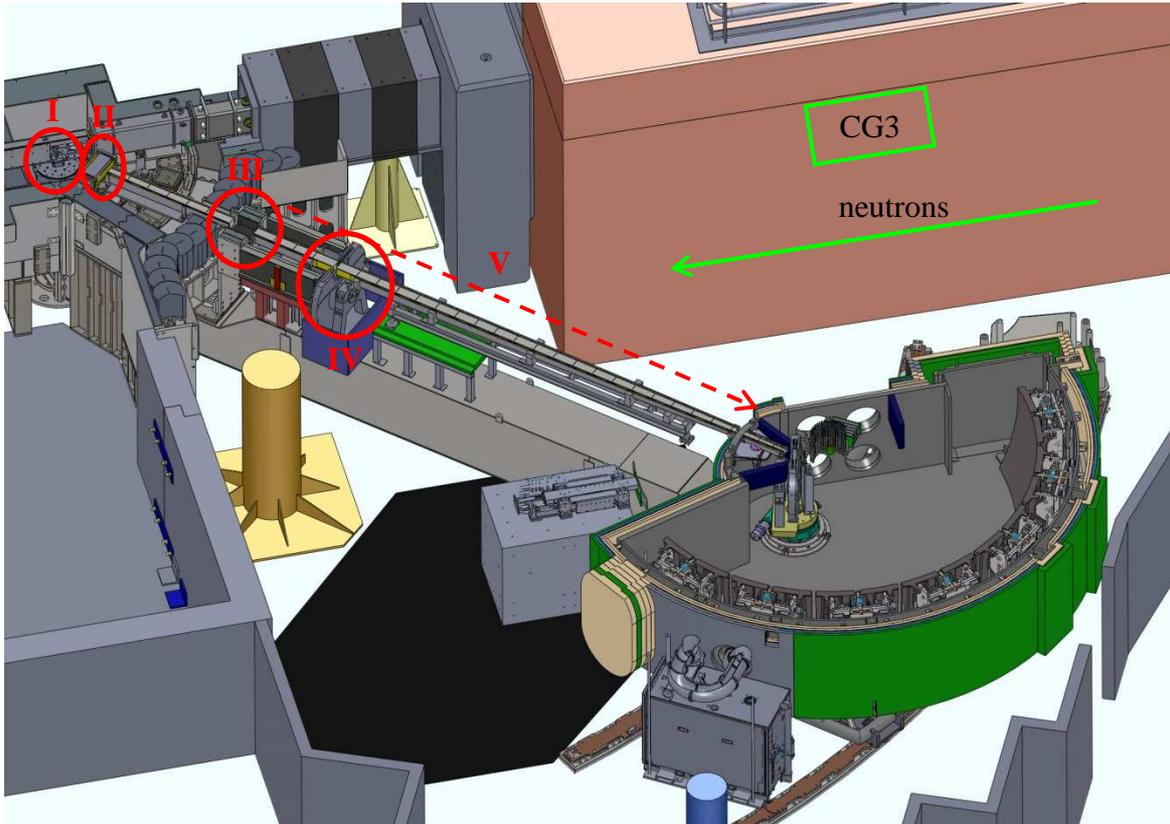

Figure 2: Conceptual design of the EMU spectrometer (side view)
A narrow energy width translates to a high-resolution, i.e. the ability to resolve sample relaxation times as long as several nanoseconds for silicon crystals configured in backscattering. The backscattering condition implies that the backscattered beam travels the same path as the incident beam, which imposes serious constraints on the instrument design and geometry. In order to allow the highest detector count rate, the neutron beam angular divergence is relaxed by use of spherical focusing, resulting in the compact instrument geometry shown in Figure 2 (side view) and Figure 3 (plan view).
The EMU premonochromator (Figure 2, I) deflects a fraction of the CG3 neutron beam into the EMU focusing guide. The remainder of the neutron beam travels on to KOOKABURRA and PLATYPUS.
The beryllium filter (Figure 2, II) is placed between the premonochromator and the tertiary shutter. It is a block of dimensions 282 (L) x 120 (W) x 170 (H) mm3, where the width is oriented along the neutron beam. It transmits only the HOPG (002) reflected neutrons, and scatters higher energies away from the transmitted beam. These higher energy neutrons are absorbed into the premonochromator shielding. The beryllium block itself is housed in a vacuum vessel and cooled by a closed-cycle refrigerator to liquid nitrogen temperature to increase its efficiency.
The neutron beam path from CG3 to the EMU instrument is closed by the tertiary shutter (Figure 2, III), so as to allow safe access to the instrument. In the open shutter position, the neutron beam proceeds down the focusing guide and through the background chopper.
The background chopper (Figure 2, IV) is a disc chopper ~ 2500 rpm spinning speed, ~ 700 mm diameter. It is made of two borated-epoxy coated aluminium discs bolted together at the desired sector angle so as to yield the desired ~ 37% transmission duty cycle. In its closed state the top of the chopper disc blocks the neutron beam path. The chopper is spinning inside a vacuum housing and is synchronized with the graphite chopper, as shown in Figure 5.
The focusing guide (Figure 2, V) efficiently transports the neutron beam from the EMU premonochromator to the graphite chopper. The focusing guide consists of precision-assembled glass elements that are coated with NiMo-Ti supermirrors and glued together to form the neutron guide.